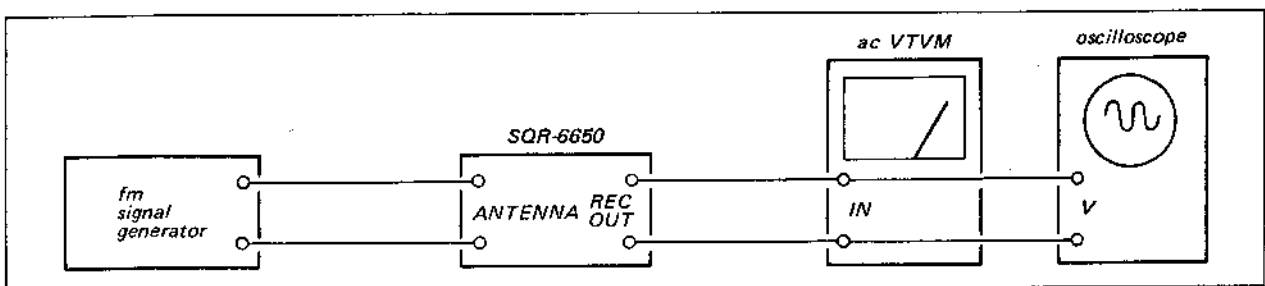

Fig. 3-9. Fm frequency coverage and tracking alignment test setup
1. Connect the equipment as shown in Fig. 3-9.